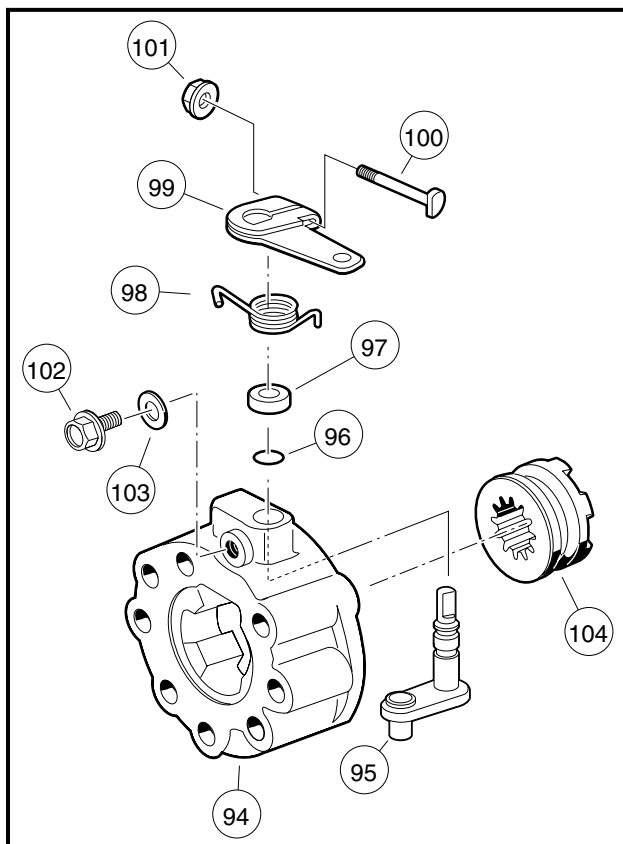

Figure 19-13 Differential Lock Housing Disassembly
1. Rotate the arm (99) and remove the differential lock cog (104) (**Figure 19-13, Page 19-9**).
2. Loosen, but do not remove, the differential lock arm retaining nut (101) and remove the arm (99) and spring (98) from the differential lock shaft (95).
3. Remove the spacer (97) from the differential lock shaft (95).
4. Remove the shaft retaining screw (102) and washer (103) from the differential lock housing.
5. Press the shaft (95) toward the center of the differential lock housing and remove the shaft (95) from the housing (94).
6. Inspect the O-ring (96) on the differential lock shaft (**Figure 19-13, Page 19-9**).